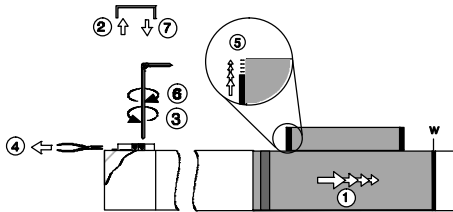

Fig. 44
2. Remove the cover cap (if present) from the opposite side (→ Fig. 44).